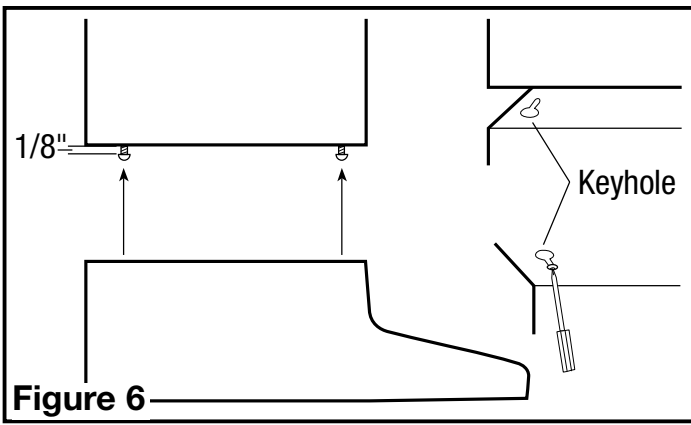

Figure 6
- Install the 4 mounting screws at the previously marked locations. Leave approximately 1/8" clearance. Slide the hood in place through the keyhole slots and align the front of the hood so that it is flush with the front of the cabinets. Tighten all screws securely (**Figure 6**).